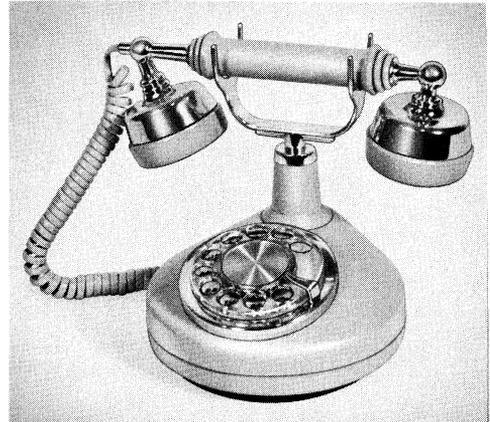

Fig. 1—940-Type DESIGN LINE Telephone Set
**1.01** This section provides identification, installation, and connection information for the 940A, 940B, and 940C (Fig. 1) DESIGN LINE\* telephone (*Celebrity*) sets.
Example: Set, Telephone, 940A40-50† is an ivory set equipped with a rotary dial and a chrome trim applique (Fig. 1).